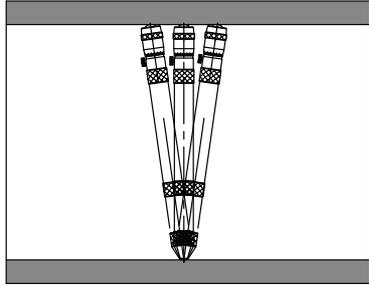

Fig.6
- During measurement, make sure there are no cutting chips or other debris on both measuring faces and workpiece surface which will affect the result. Rotate friction thimble to set its size less than the hole's diameter, and then put micrometer into the hole. Put fixed measuring face to contact the measured hole, rotate friction thimble slowly, shake micrometer gently along hole's axial and radial to find the minimum value in axial direction(Fig.6) and the maximum value in radial direction(Fig.7), tighten the locking screw, take out micrometer to get the result.